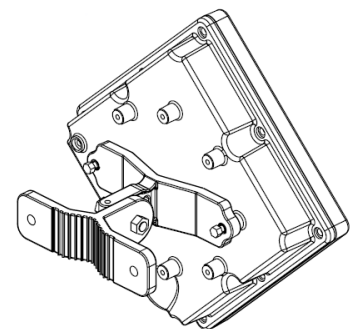

Figure 3
4. Attach the clamp to the bracket such that the bolt is threaded through it and tighten using an M8 nut. Make sure the bracket is secured tightly. (Figure 3)